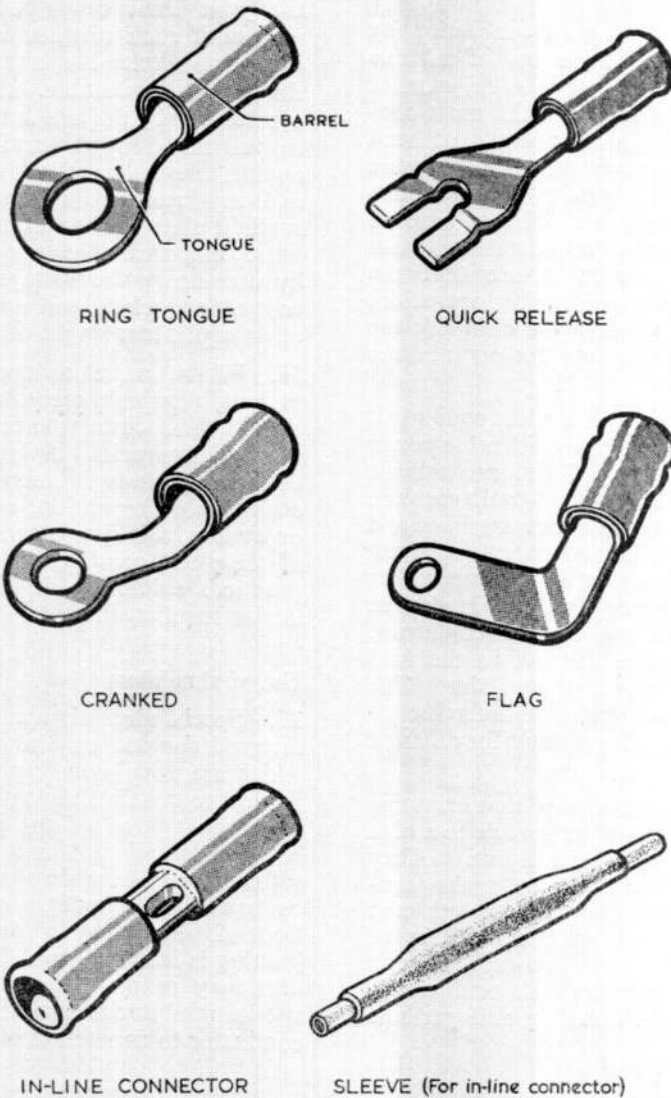

Fig. 2. Typical compression terminals
9. The design of the tongue end depends on where and how the terminal is to be attached. Typical terminals are illustrated in fig. 2; the most common form is the ring tongue, circular in outline with a hole to fit around a stud. Short of clamping a flat tongue without a hole, this design provides a connection in the smallest possible space. Other tongue shapes may be produced to meet special requirements, such as location holes or slots, or two stud holes instead of one, to prevent the risk of the terminal swivelling about its